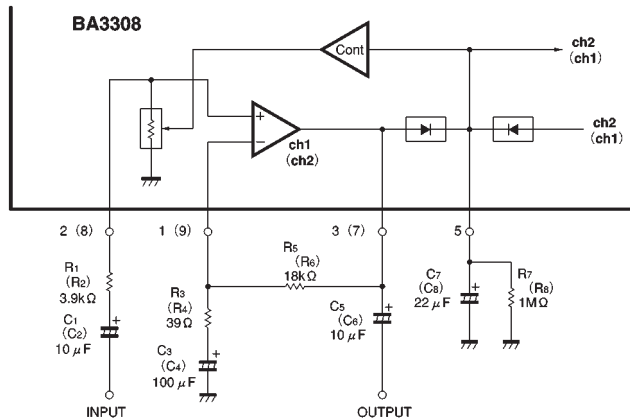

Fig. 5
1) Recording amplifier (See Fig. 5)